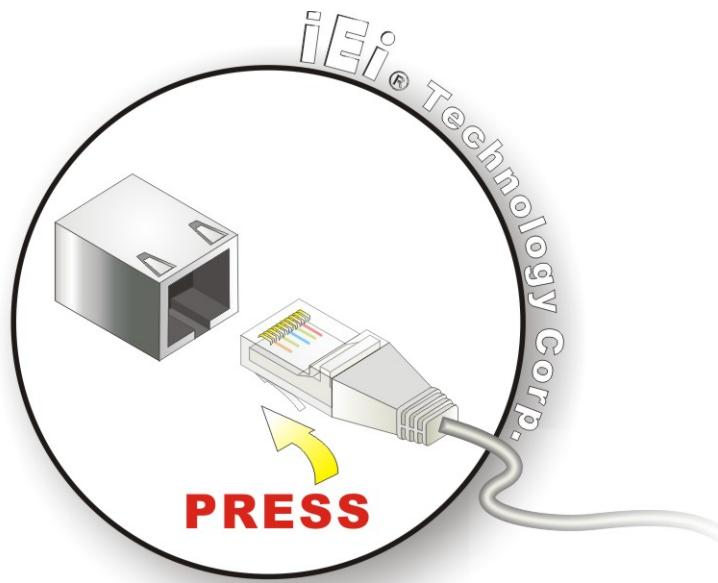

Figure 4-17: LAN Connection
Step 2: Align the connectors. Align the RJ-45 connector on the LAN cable with one of the RJ-45 connectors on the NANO-HM651. See **Figure 4-17**.